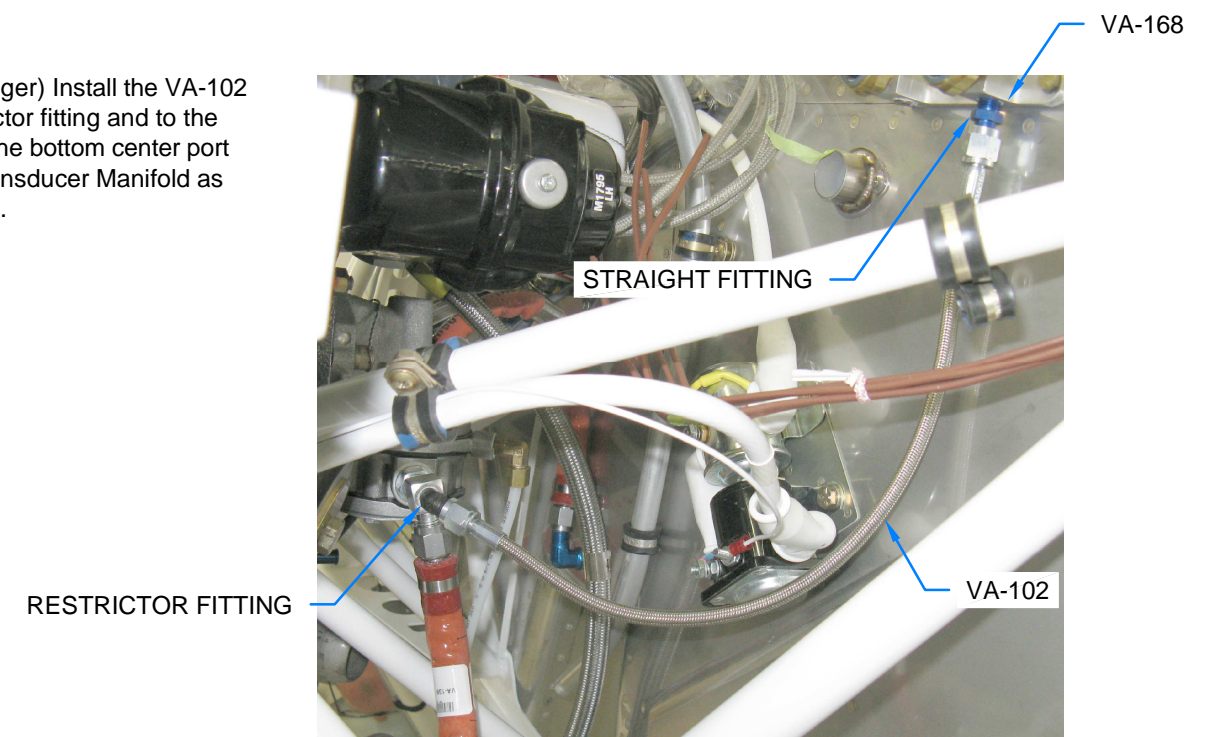

FIGURE 4: FUEL PRESSURE HOSE INSTALLATION
Step 4: (Tail Dragger) Install the VA-102 Hose to the restrictor fitting and to the straight fitting in the bottom center port of the VA-168 Transducer Manifold as shown in Figure 4.